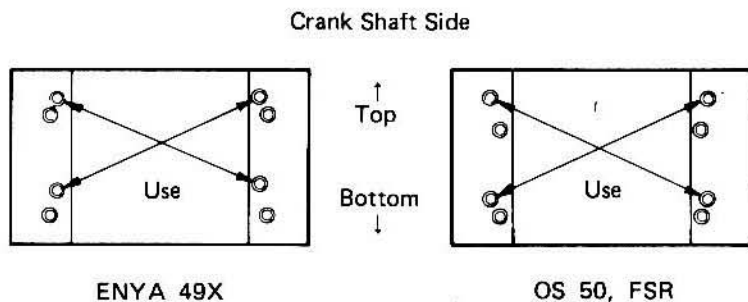

Fig. 5
- 3** Bolt the engine to the engine mounting block. At this time, make sure of the direction of engine mounting block. See fig. 5.